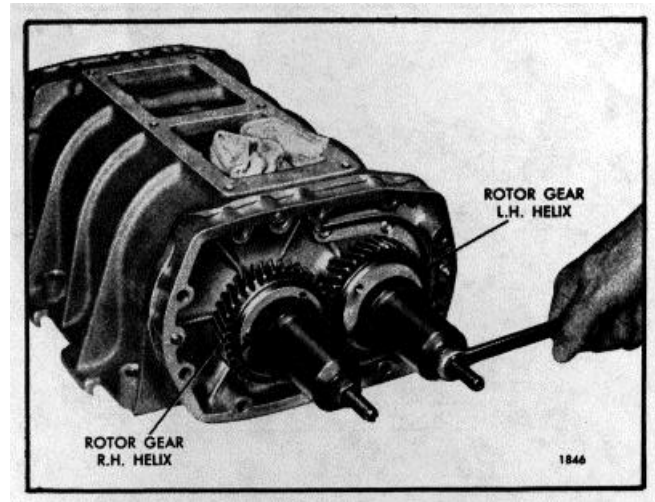

Fig. 15 - Installing Rotor Gears on Rotor Shafts for Preliminary Check of Clearances using Tool J 6270-6, 7 and 8.
- g. Thread an installer screw J 6270-8 in the end of each rotor shaft until it bottoms. Place gear installer J 6270-7 over the installer screw and against the right-hand helix gear and gear installer J 6270-6 over the installer screw and against the left-hand helix gear. Then, thread a nut on each installer screw (Fig. 15).
- h. Place a clean folded cloth between the lobes of the rotors, to prevent the rotors from turning. Then, turn the nuts on the installer screws clockwise as shown in Fig. 15 and draw the two gears into position at the same time, tight against the shims and bearing inner races.